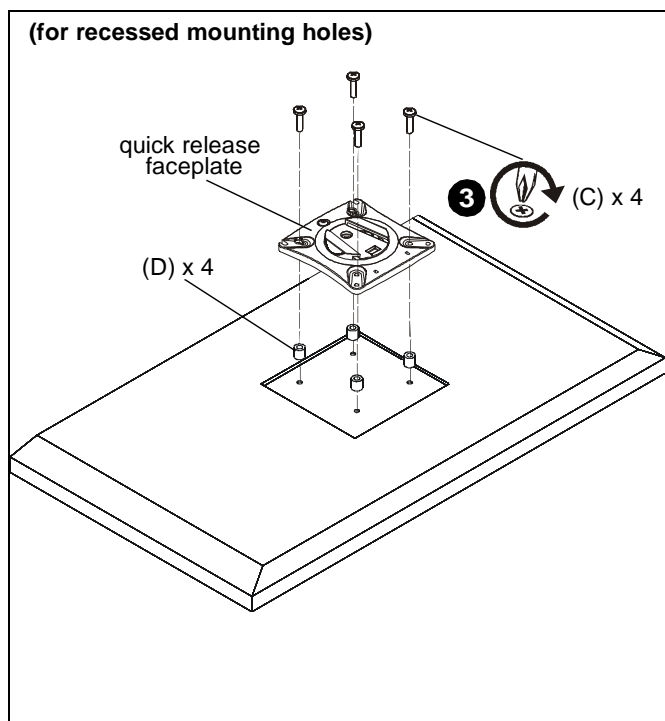

Figure 13
- Place four spacers (D) on top of mounting holes on back of display. (See Figure 13)
- Using Phillips screwdriver, carefully install four M4x25mm screws (C) through corresponding holes on faceplate, spacers (D) and into the mounting holes on the display. (See Figure 13)